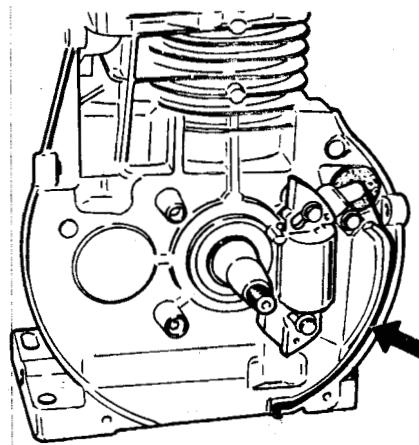

Figure 115
27. Route the oil sensor wire in the channel provided in the crankcase. The wire groove is accessible with the flywheel installed. See Figure 115.